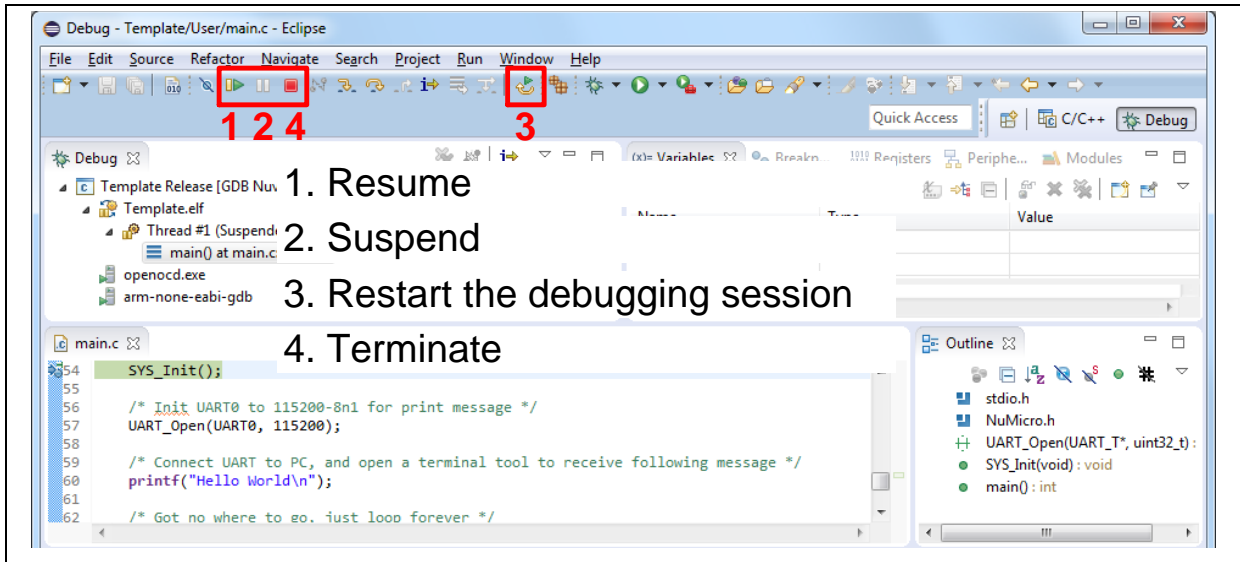
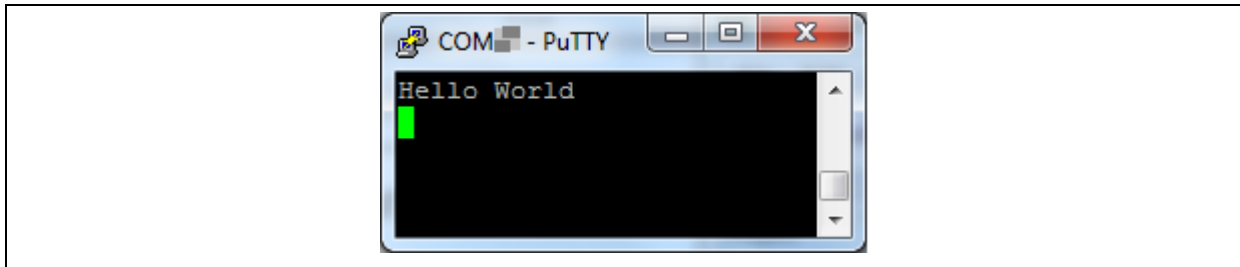

Figure 4-28 NuEclipse Debug Mode
Figure 4-29 Debug Message on Serial Port Terminal Windows
- Figure 4-28 shows the debug mode under NuEclipse. Click “Resume” and the debug message will be printed out as shown in Figure 4-29. User can debug the project under debug mode by checking source code, assembly language, peripherals’ registers, and setting breakpoint, step run, value monitor, etc. For more information about how to use NuEclipse, please refer to the NuEclipse User Manual.